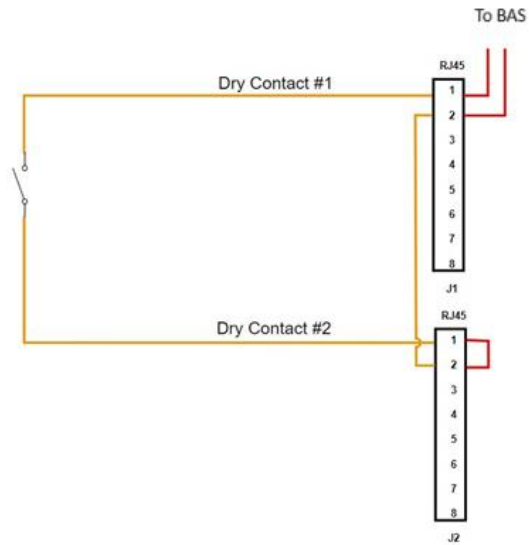

Figure 13: Dry contact external wiring - single unit, no chaining.
3. If there is only one unit in the chain to be monitored, the unit is wired to the BAS as in Figure 13.